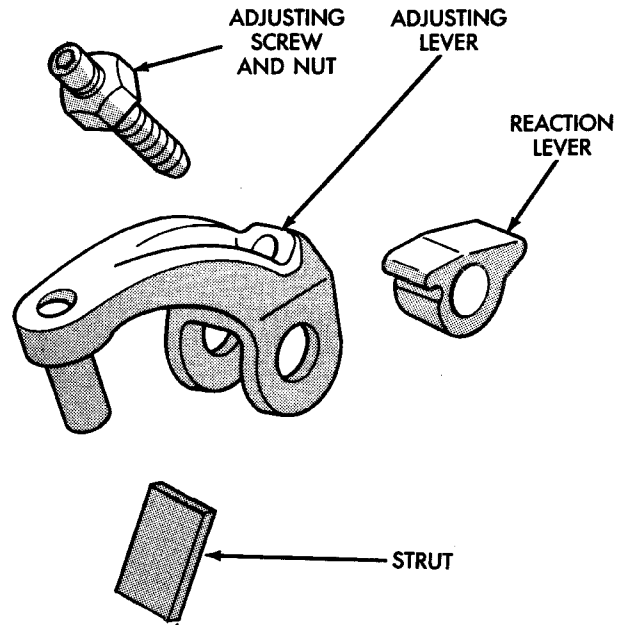

Fig. 132 Rear Band Levers And Strut
(7) Install rear band adjusting lever, reaction lever, and strut (Fig. 132). Be sure levers and strut are aligned and engaged before seating band reaction pin in case.